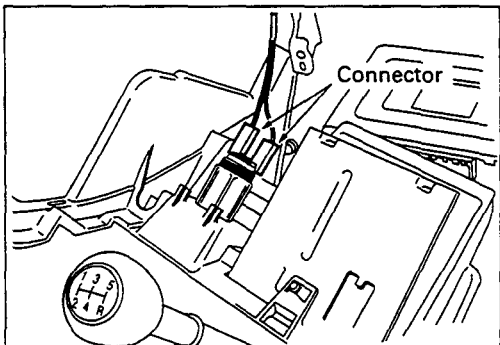

Fig.5
13. Instrument Panel Lower Center Cover Assembly (Fig.5)